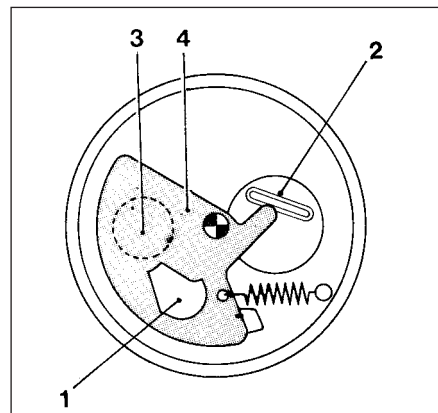

Fig. 13.41 Supplementary air valve - 1301 cc Turbo ie engine (Sec 9C)
16 This controls the air volume requirement during cold starting. Essentially, the valve is an electrically-heated bi-metallic strip, which rotates the plate (4) (Fig. 13.41) to vary the volume of air being drawn in through the aperture (1), according to the temperature of the engine.